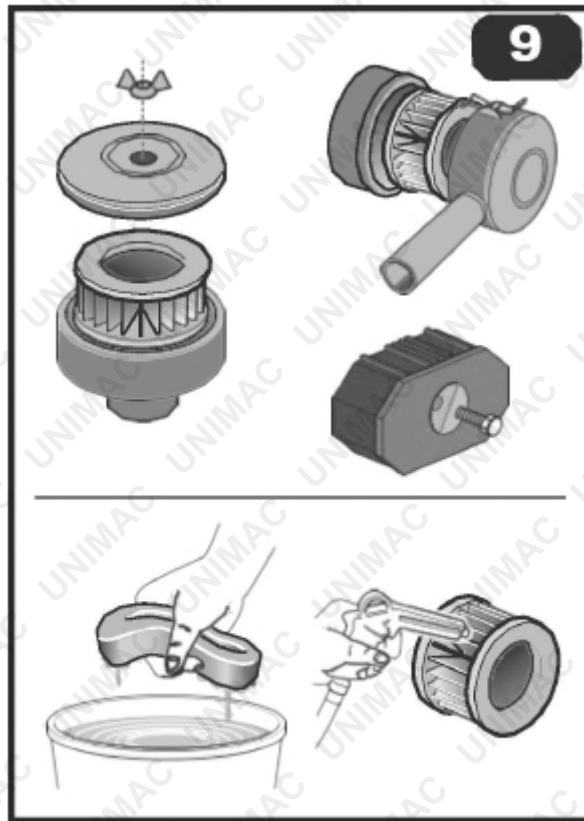

Fig. 9
- Clean the Intake filter as follows (Fig. 9):